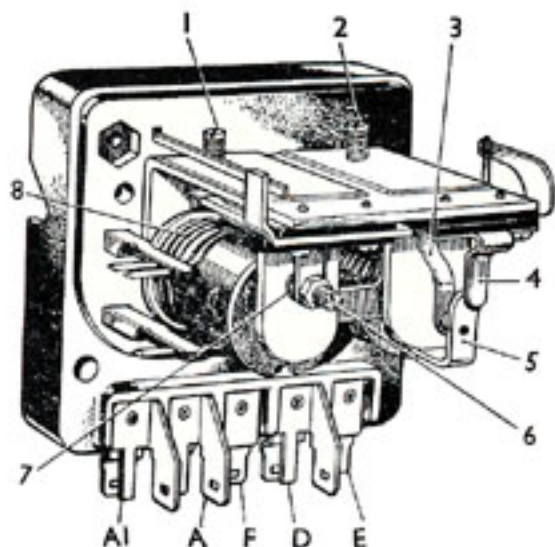

Fig. 10.4. VIEW OF THE REGULATOR & CONTROL BOX
2. Check the regulator setting by removing and joining together the cables from the control box terminals A1 and A. Then connect the negative lead of a 20-volt voltmeter to the 'D' terminal on the dynamo and the positive lead to a good earth. Start the engine and increase its speed until the voltmeter needle flicks and then steadies. This should occur at about 2,000 r.p.m. If the voltage at which the needle steadies is outside the limits listed below, then remove the control box cover and turn the adjusting screw, (1) in Fig. 10.4, clockwise a quarter of a turn at a time to raise the setting and a similar amount, anti-clockwise, to lower it.
3. If the reading is outside these limits turn the cut-out adjusting screw, (2) in Fig. 10.4, a fraction at a time clockwise to raise the voltage, and anti-clockwise to lower it. To adjust the drop off voltage bend the fixed contact blade carefully. The adjustment to the cut-out should be completed within 30 seconds of starting the engine as otherwise heat build-up from the shunt coil will affect the readings.